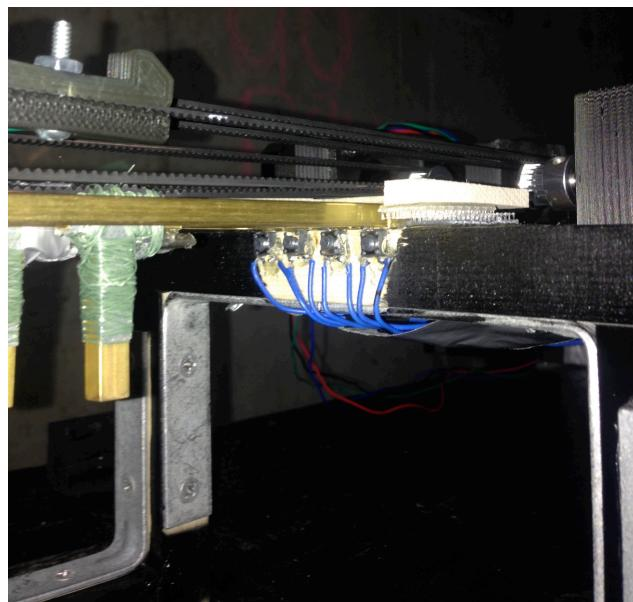

Figure 6
To start a song from the device powered down, the user plugs the wall adapter to an outlet, turns on the master power switch, the stepper motor switch, and the appropriate song switch (in that order). The song switch triggers the micro controllers to send the plungers to their home set position. The stepper motors slowly step back to move the belts, which are attached to the plungers. When all plungers have pushed their respective proximity push-button (see Figure 6) an AND-gate sends a signal back to the PIC16F88s and starts the coded song sequence. It is important to note that the entire process is automated and the only user input should be turning on the initial start-up switches.
22. Install the 4 push buttons directly below each bar as shown in Figure 6 so that the protruding rod can push them on the ski assembly.